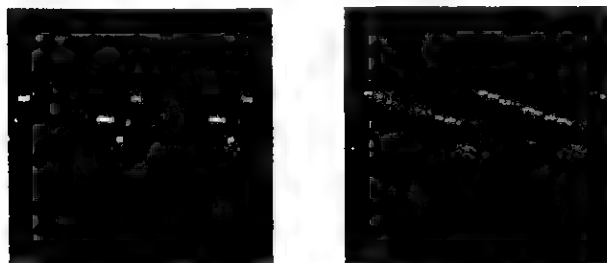

Fig. 4-5. — Waveforms Luminance Null Adjust
3. Adjust R3328 for minimum chroma information (Fig. 4-5).